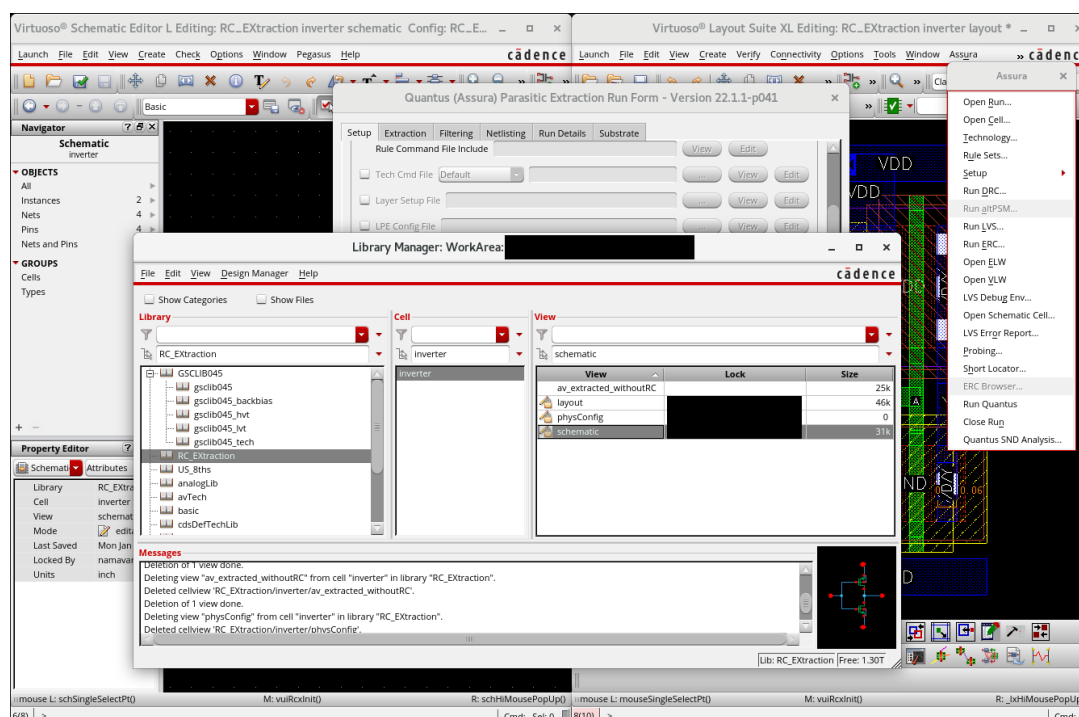

Figure 5: Library Manager showing the new extracted view for the inverter cell. The view name matches the one specified in the Output field.
5. Once the extraction process is complete, verify the creation of the new extracted view in the **Library Manager**, as shown in Figure 5.